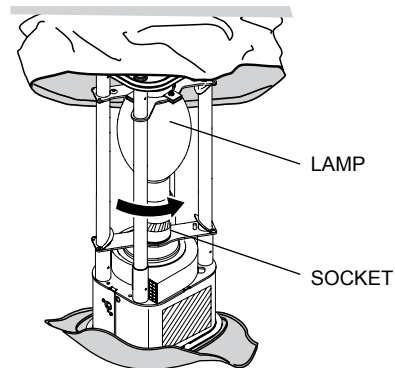

Figure 30. Installing New Lamp
5. Install new lamp into socket and turn lamp in a clockwise direction until tight. See Figure 30. Press tabs on the lamp holder and slowly bring down the holder to secure lamp in place.